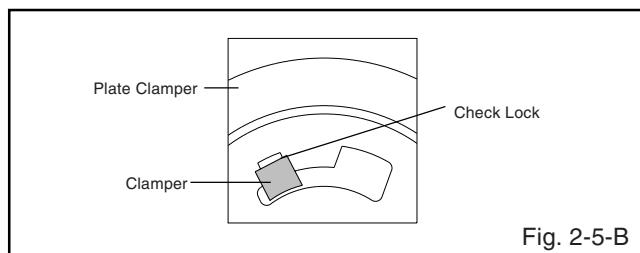

Fig. 2-5-B
**2-5: CLAMPER ASS'Y (Refer to Fig. 2-5-A)**
- Press the Clamper and rotate the Plate Clamper clockwise, then unlock the 3 supports ①.
1. In case of the Clamper Ass'y installation, install correctly as Fig. 2-5-B.